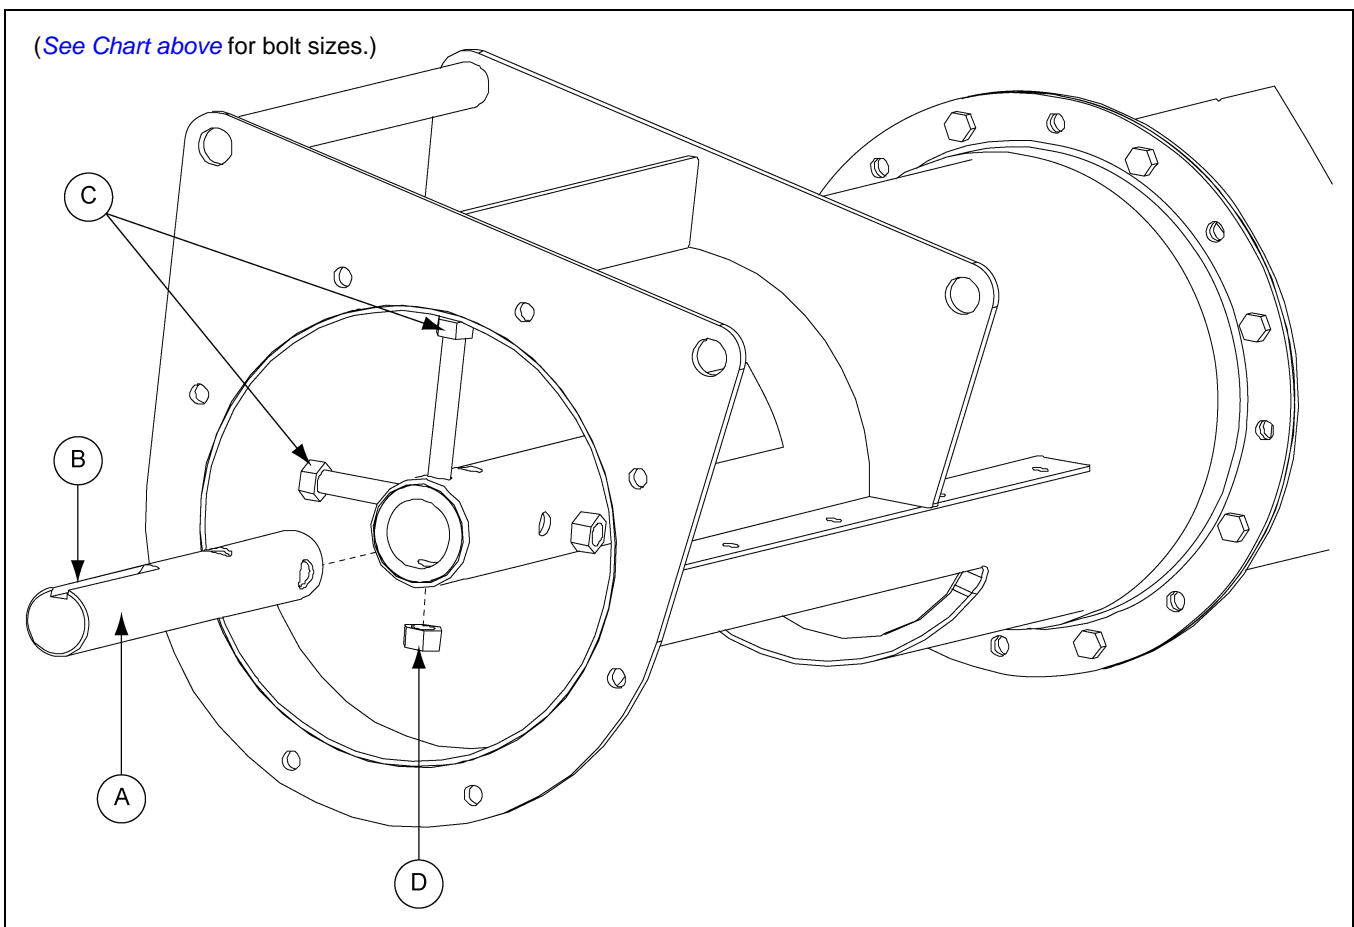

Figure 4A
1. Insert the drive shaft (A) into the opposite end of flight with keyway (B) facing outward. Align the holes in the shaft and secure with grade 8 bolts (C) and stover nuts (D). (See Chart below and Figure 4A.)